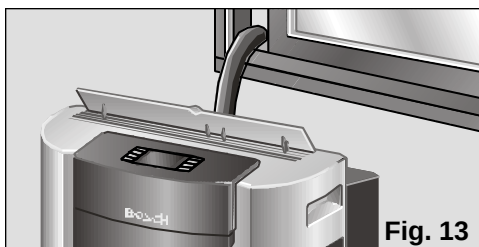

Fig. 13
- ❑ Pass the hose through a door or window left ajar, Fig. 13.